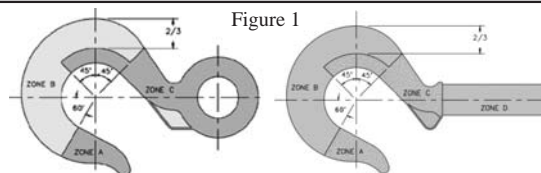

Figure 1
- Never use a hook that is worn beyond the limits shown in Figure 1.
- Remove from service any hook with a crack, nick, or gouge. Hooks with a nick or gouge shall be repaired by grinding lengthwise, following the contour of the hook, provided that the reduced dimension is within the limits shown in Figure 1. Contact Crosby Engineering to evaluate any crack.
- Always make sure hook supports the load. The latch must never support the load. (See figure 1&2).